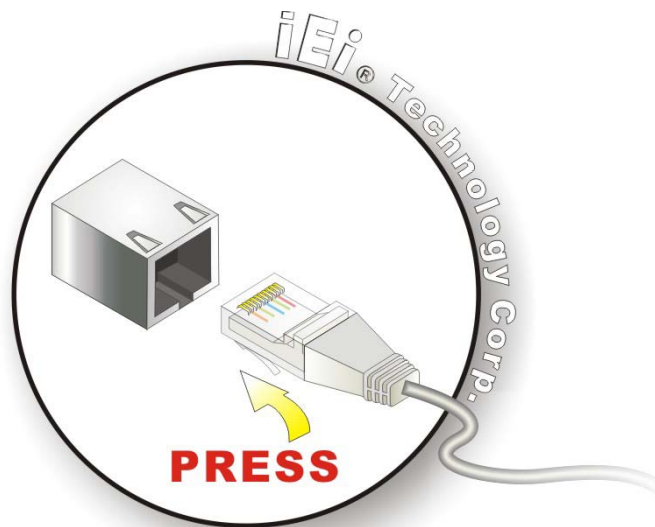

Figure 3-23: LAN Connection
- Step 2:** **Align the connectors.** Align the RJ-45 connector on the LAN cable with one of the RJ-45 connectors on the UPC-V315-QM77. See **Figure 3-23**.